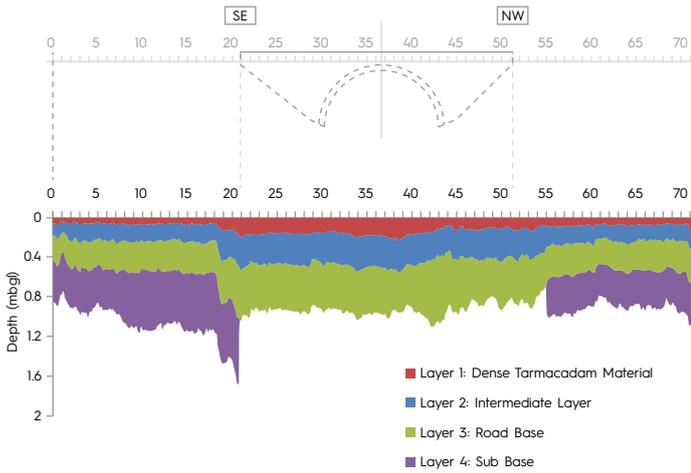
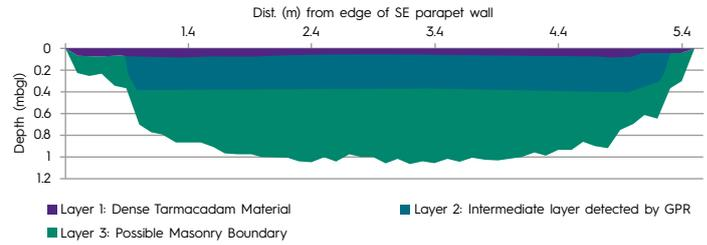

Figure 3: Road pavement thickness
Figure 4: Cross sectional model of upper layers of the bridge
- Transverse lines across the bridge shown in figure 3 enabled a cross sectional model of the bridge to be produced, as shown in figure 4
- Various anomalies in the bridge make up were identified, the cause of each anomaly could not be explained using the GPR alone but these highlight important target areas for further investigation during the site investigation (SI) phase